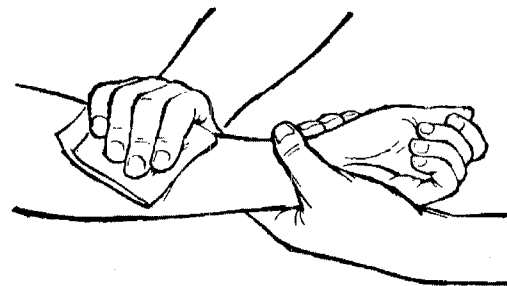

Fig. 1—Direct Pressure on the Wound
- (a) Severe bleeding must be stopped without delay. Apply direct pressure on the wound, using a cloth pad or even bare hand, if necessary. (Fig. 1)